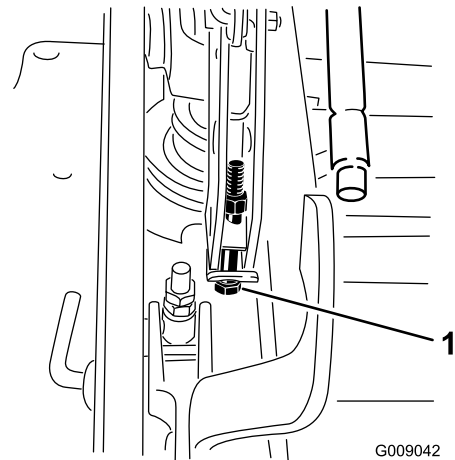

Figure 95
11. If the deck is too low, tighten the single-point adjustment bolt by rotating it clockwise. If the deck is too high, loosen the single-point adjustment bolt by rotating it counterclockwise (Figure 95).